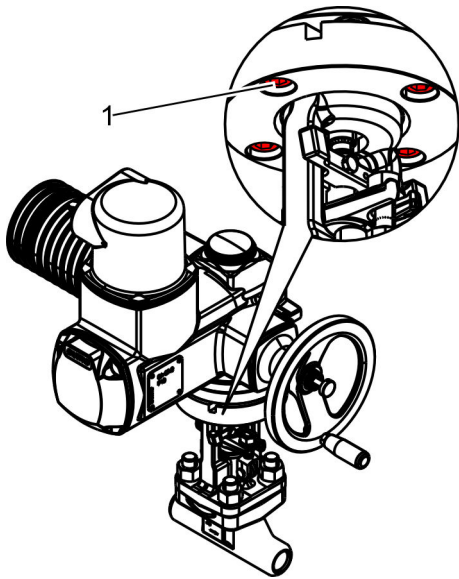

Fig. 36: Removing the bolts
2. ➤ Undo the bolts (Fig. 36/1) for the electric actuator and remove them along with the washers.